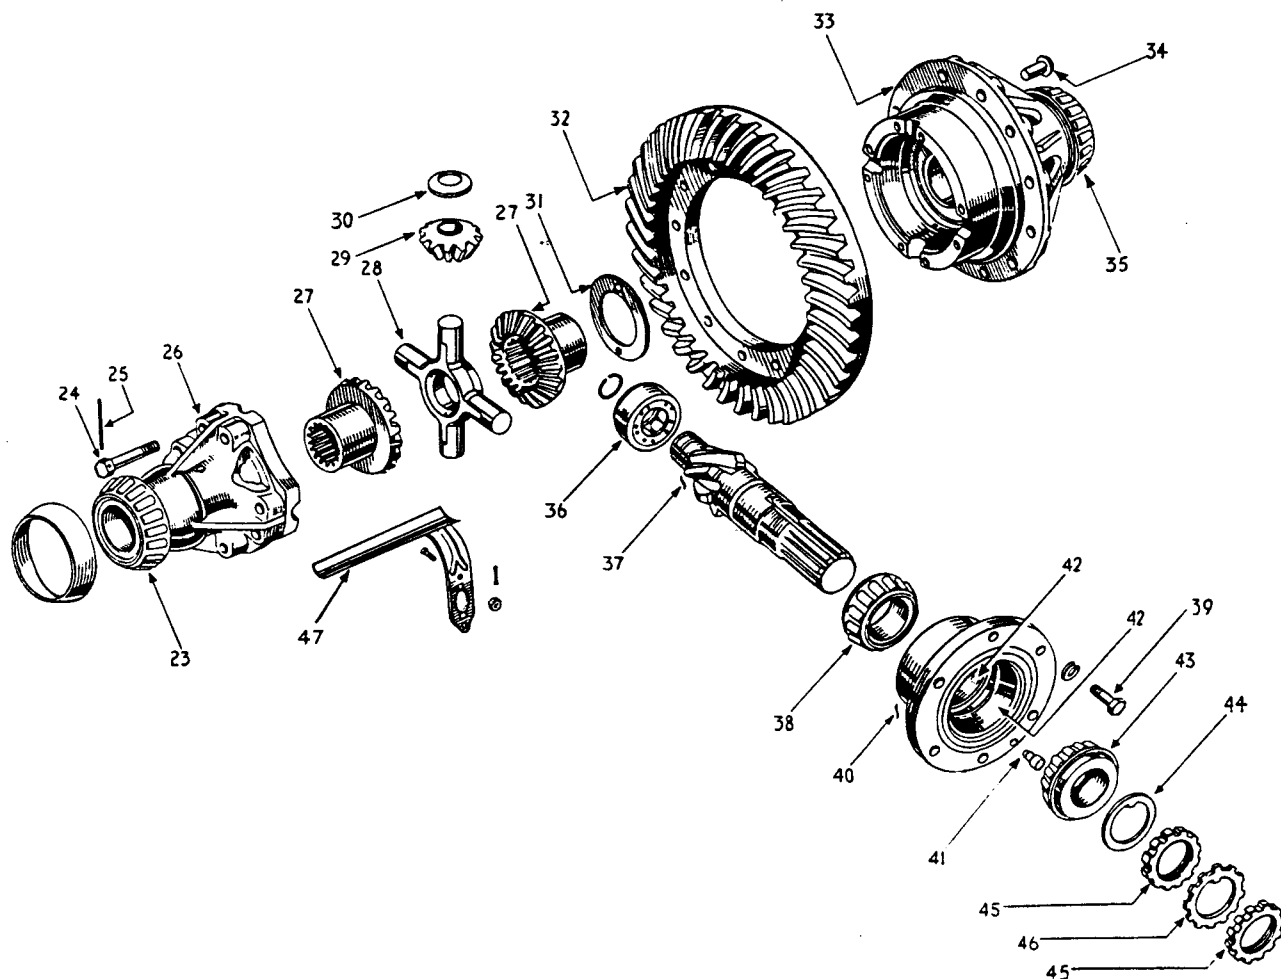

FIG. 12
## To Dismantle Differential Assembly, Fig. 12.
### To Re-Build Differential Assembly— (Fig. 12).
9. Withdraw pinion and sleeve assembly, which is located in its housing web in casing by a dowel (41) and secured by six set screws (39) with lock washers. (See Fig. 12).
## Replacement of Driving Pinion and Sleeve Assembly. (See Fig. 12).
## Thrust Bearings—Removal. (Fig. 12.)
**Pilot Bearing.** (Refer to Fig. 12).